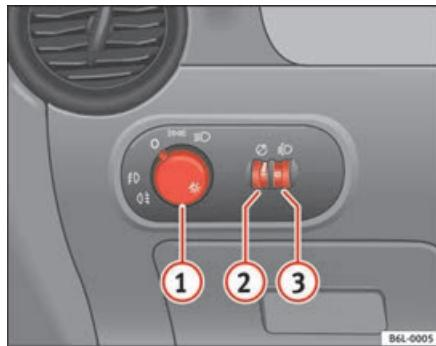

Fig. 57 Detail of the instrument panel: light controls, fog light and rear fog light control
- Turn the light switch ⇒ fig. 57 to position $\text{H}0\text{L}$.